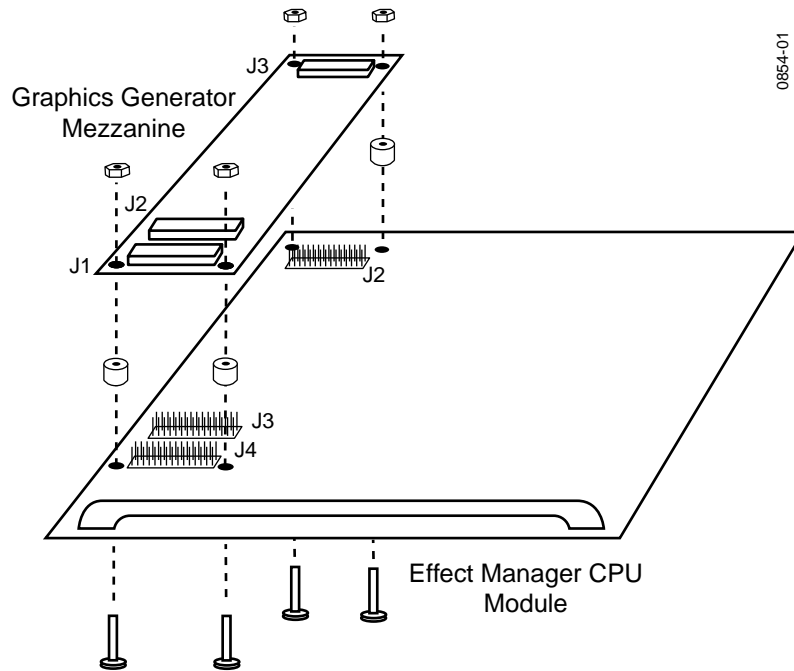

Figure 2-19. Graphics Mezzanine Installation
- Align the boards so connectors J1, J2, and J3 on the Graphics Generator mezzanine board connect to J4, J3 and J2 of the Effect Manager CPU. Use the four nuts, bolts, and standoffs provided to secure the Graphics Generator to the Effect Manager CPU. Place a standoff on each bolt connecting the two circuit boards (Figure 2-19).